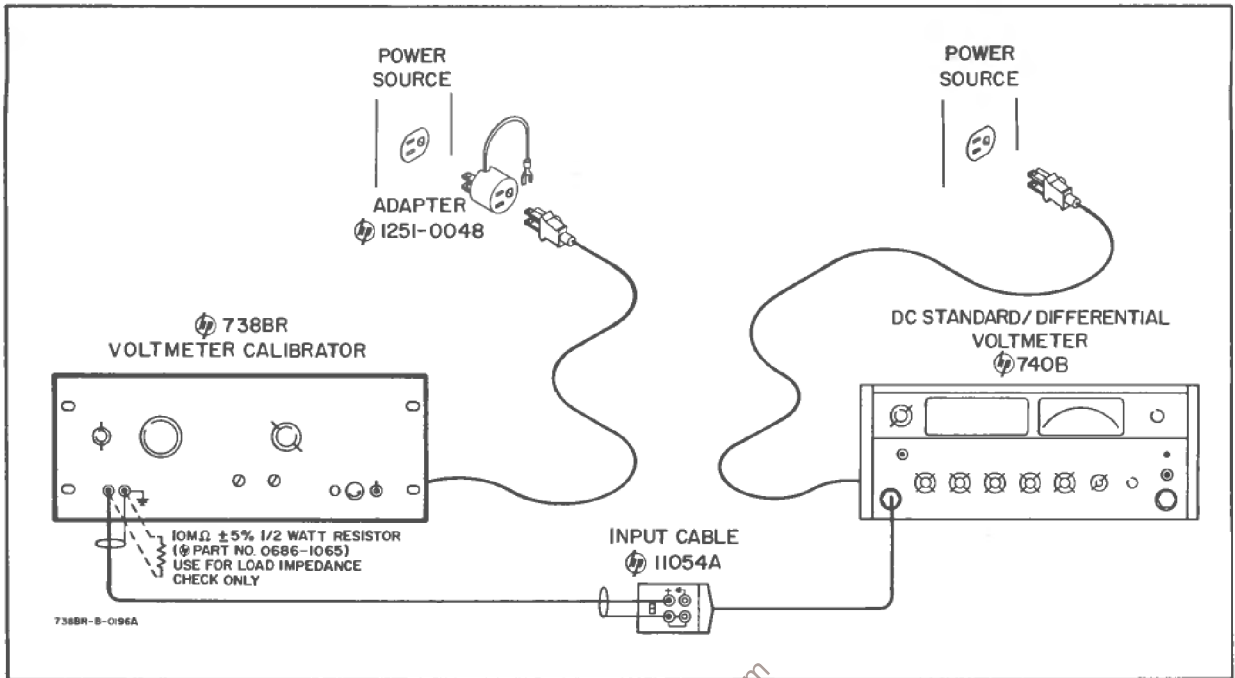

Figure 5-1. Attenuator Accuracy Test Setup
- a. A DC Differential Voltmeter (-hp- Model 740B) and a NEMA 3-prong to 2-prong adaptor (-hp- Part No. 1251-0048) will be required for this test. Figure 5-1 shows the test setup recommended.
- a. A DC Differential Voltmeter (-hp- Model 740B), a NEMA 3-prong to 2-prong adaptor (-hp- Part No. 1251-0048) and a 10 megohm $\pm 5\%$, 1/2 watt resistor (-hp- Part No. 0686-1065) will be required for this test. Figure 5-1 shows the test setup recommended.